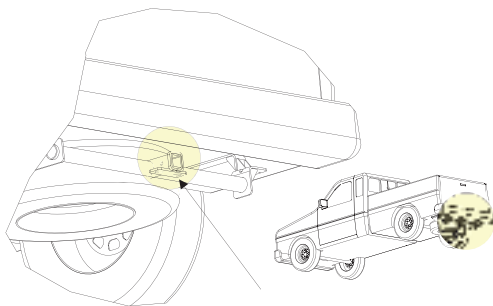

Figure 3-3
**NOTE:** Some shallow hitches (for example, hitches blocked by spare tires) may call for a short hitch adapter. *See Figure 3-3.*